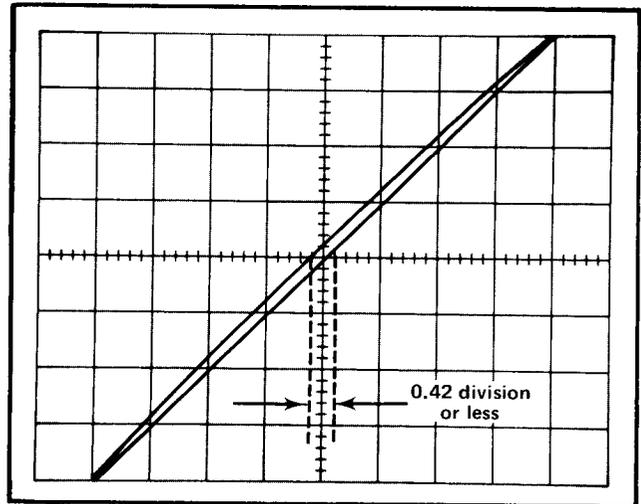

Fig. 5-1. Typical CRT display when checking X-Y phasing.
e. CHECK—CRT display for an opening at the center horizontal line of 0.42 division or less (3° or less phase shift; see Fig. 5-1).